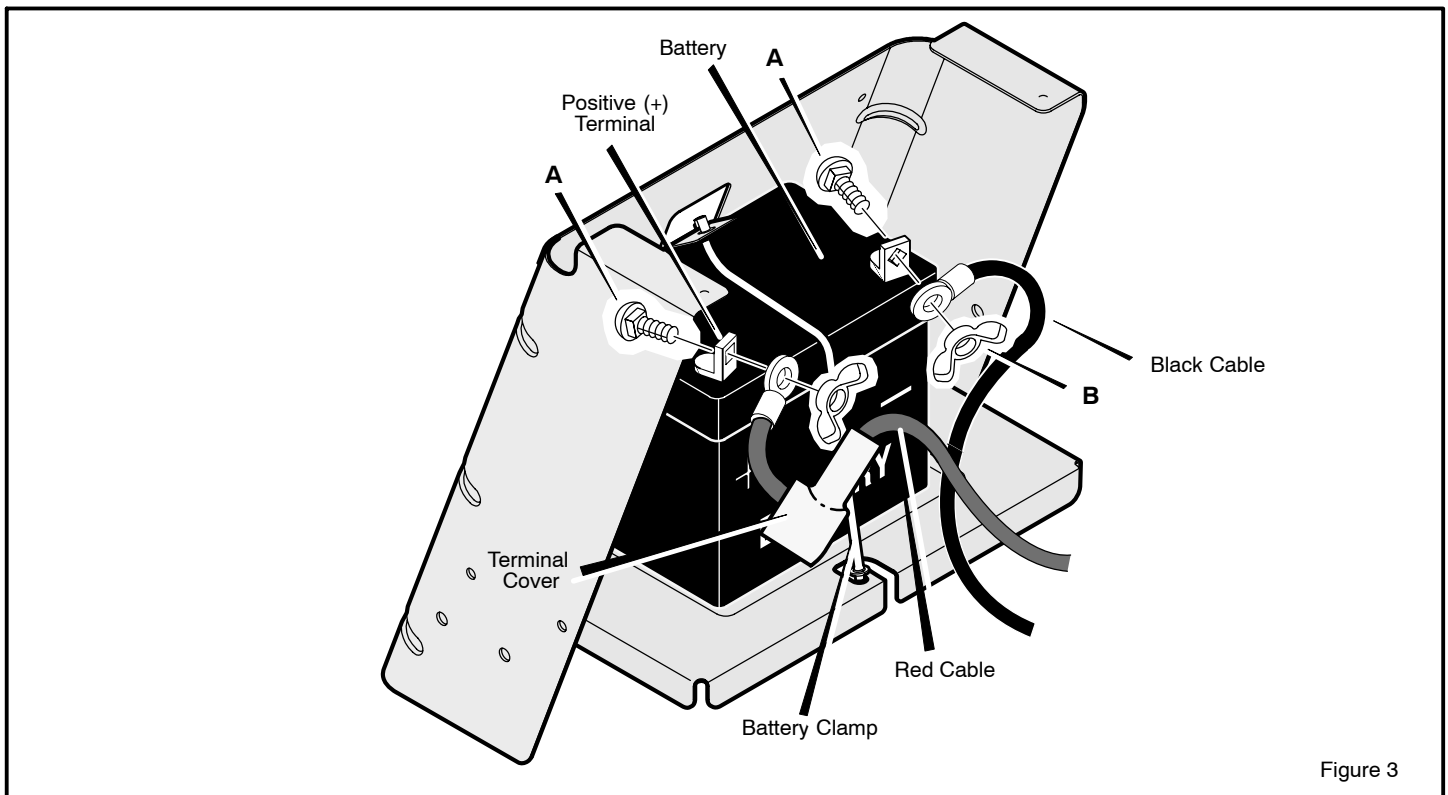

Figure 3
2. Check the top and the side of the battery for the location of the **battery date** (Figure 3).
2. Fasten the **red cable** and **terminal cover** to the **positive (+) terminal** with the fasteners as shown (Figure 3).